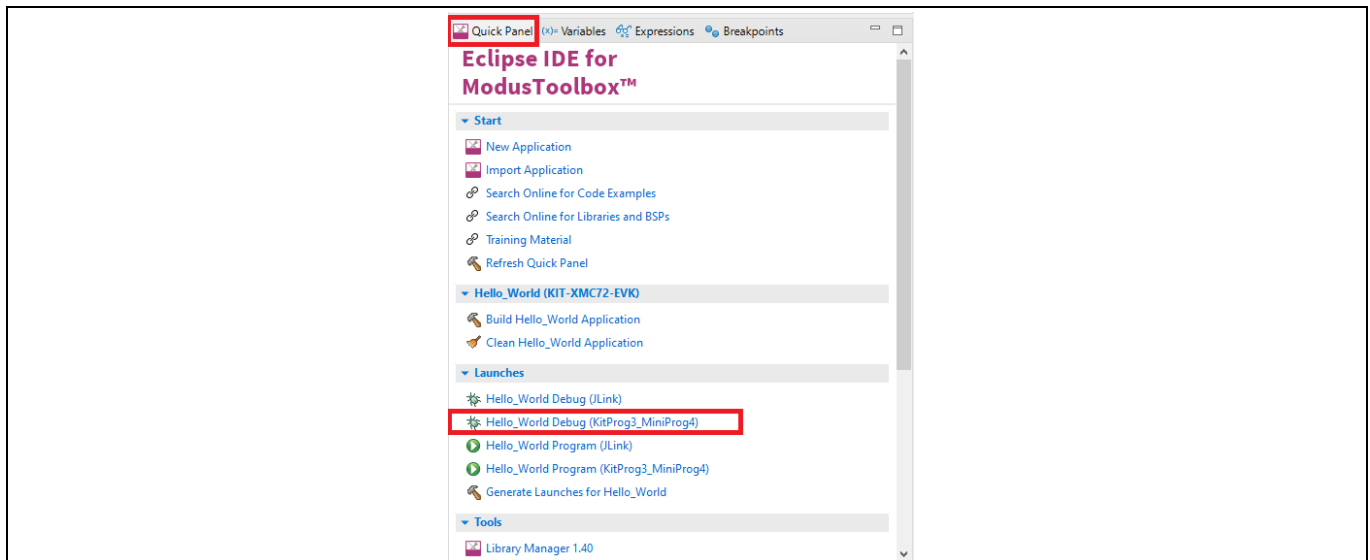

Figure 13 Debugging in ModusToolbox™ software
- ModusToolbox™ software has an integrated debugger. To debug a XMC7200D application, in the Project Explorer, select **<App_Name>** project. In the Quick Panel, scroll to the **Launches** section and click the **<App_Name> Debug (KitProg3_MiniProg4)** configuration as shown in **Figure 13**. For more details, see the “Program and debug” section in the **Eclipse IDE for ModusToolbox™ user guide**.